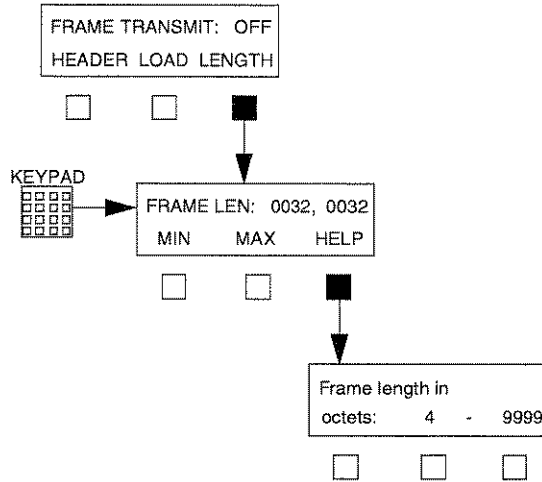

Figure F-7. Frame Length Menu
Press the LENGTH softkey to display the Frame Length menu, as shown in Figure F-7. The Frame Length menu allows you to specify the minimum (4) and maximum (9999) frame length being transmitted. The frame length includes the header and the user data field but not the beginning and ending flags. This softkey is not applicable when LOAD is set to PING (there is a LENGTH softkey under PING).